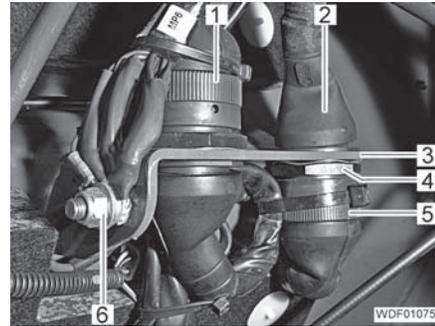

Fig. 336 Electrical plugs
- Unscrew the nut (Fig. 336,6) from the grounding point and remove the cable.
- Unplug 2 plugs (Fig. 336,1 and 5).
- Unscrew the nut (Fig. 336,4) and unplug the plug (Fig. 336,2) from the holder (Fig. 336,3).